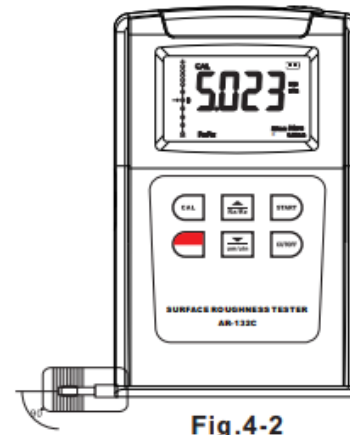

Fig.4-2
G. Refer to Figure 4-1 and Figure 4-2 to place the instrument correctly, stably and reliably on the surface to be measured.
H. Refer to Figure 4-2, the sliding trail of the sensor must be vertical to the direction of process line of the measured surface.